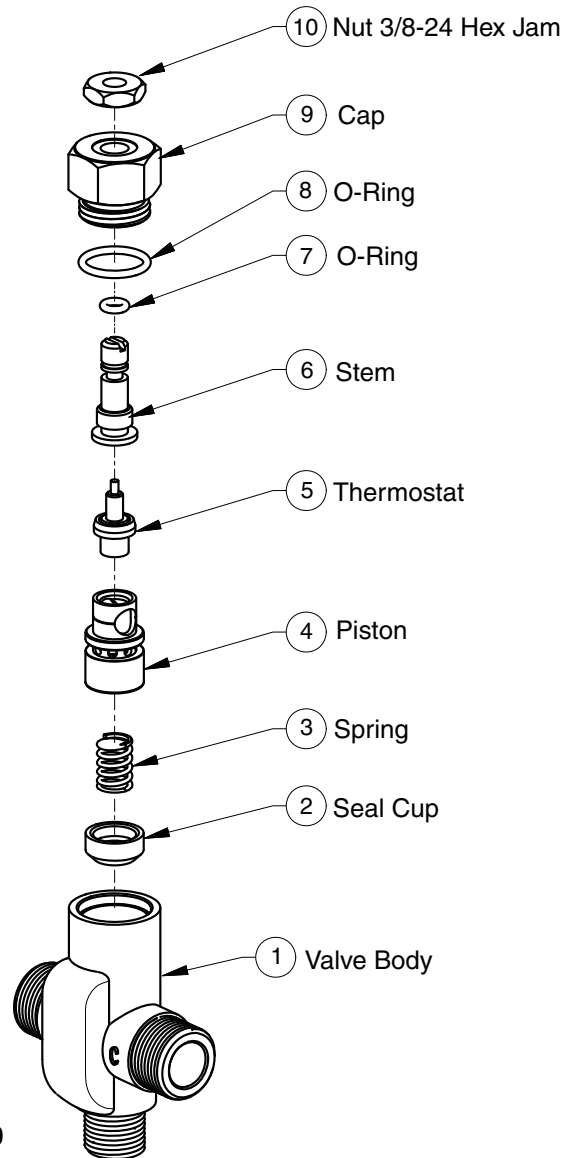

Figure 10
1. Remove the valve's cap and thermostat (see Figure 10 on Page 30).